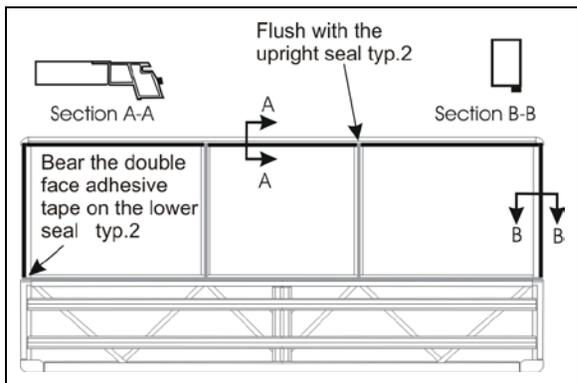
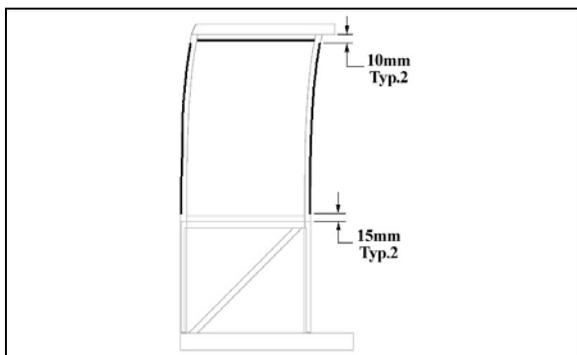

FIGURE 52: FACE FIXED WINDOWS – 3/16 X 1/2 DOUBLE FACE ADHESIVE TAPE INSTALLATION
FIGURE 53: SIDE FIXED WINDOW – 1/4 X 1/2 DOUBLE FACE ADHESIVE TAPE INSTALLATION
3. Apply appropriate double face self-adhesive tape on the slide-out structure (see FIGURE 52 for face fixed windows or FIGURE 53 for side fixed window).